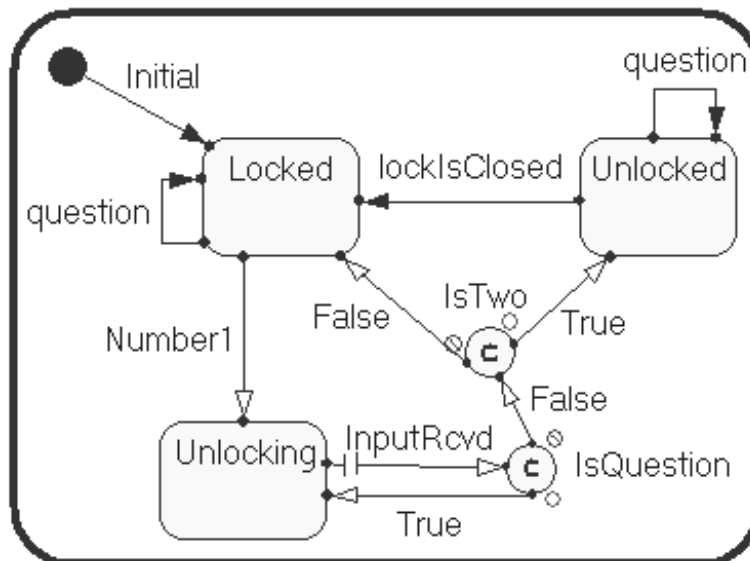

Figure 4.6 - Lock State Diagram Showing Transitions
- 7.14. Create the transitions shown in Figure 4.6.